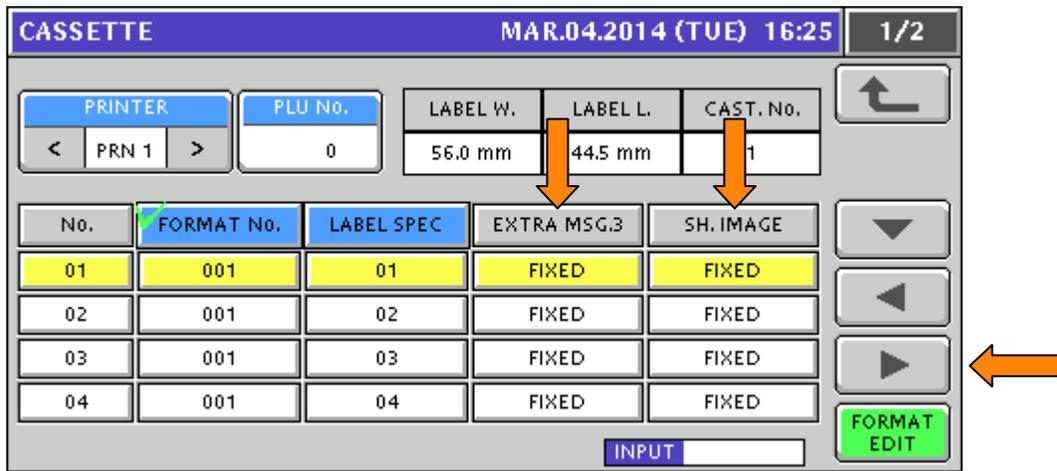

Figure 7.8 Label Cassette Setup: Extra Message 3 Type and Safe Handling Image Type
27. Press the ► button to move to the next page. See Figure 7.8.